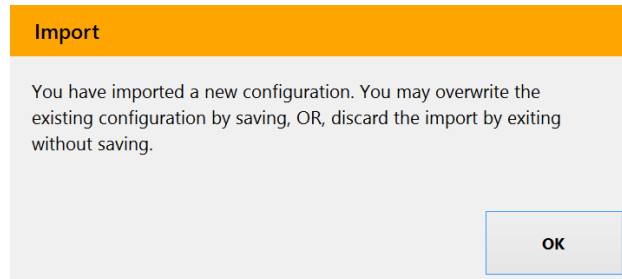

Figure 2.18: A warning about overwriting existing data when importing a pump configuration.
4. BC2 Config will run, but you will receive a warning (see Figure 2.18 on page 26) that you are about to potentially overwrite data. Tap **OK** to acknowledge the warning.